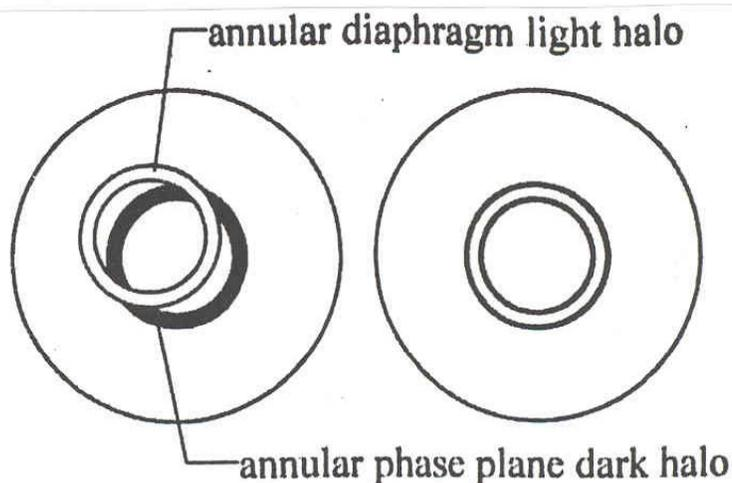

Figure 7
4. While viewing the rings through the phase telescope, rotate the two centering screws (#13, Figure 1) so that the narrower white ring is superimposed equidistant within the black ring and reset the thumb screws (Figure 7).